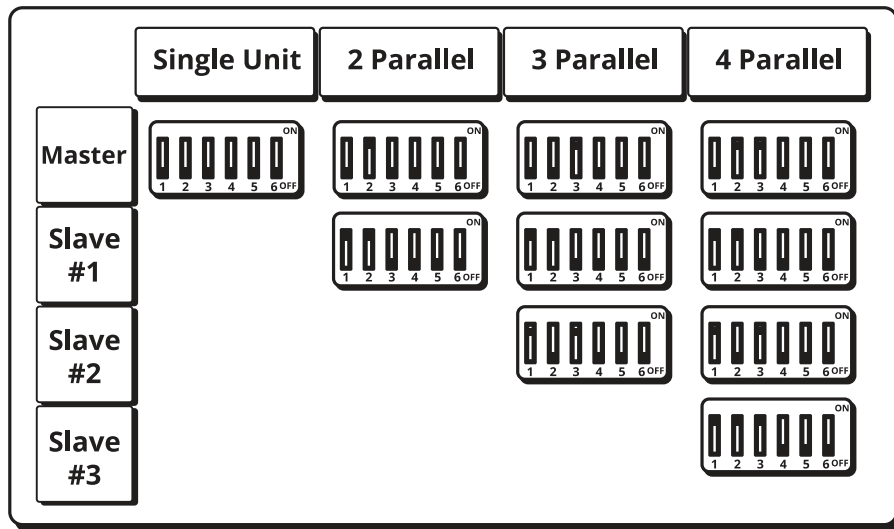

Figure 8 – DIP switches configuration for up to four batteries paralleled.
4. In order to set the master and slaves, it is necessary to set up the DIP switches (ON or OFF). Follow the settings presented in Figure 8 for each case.